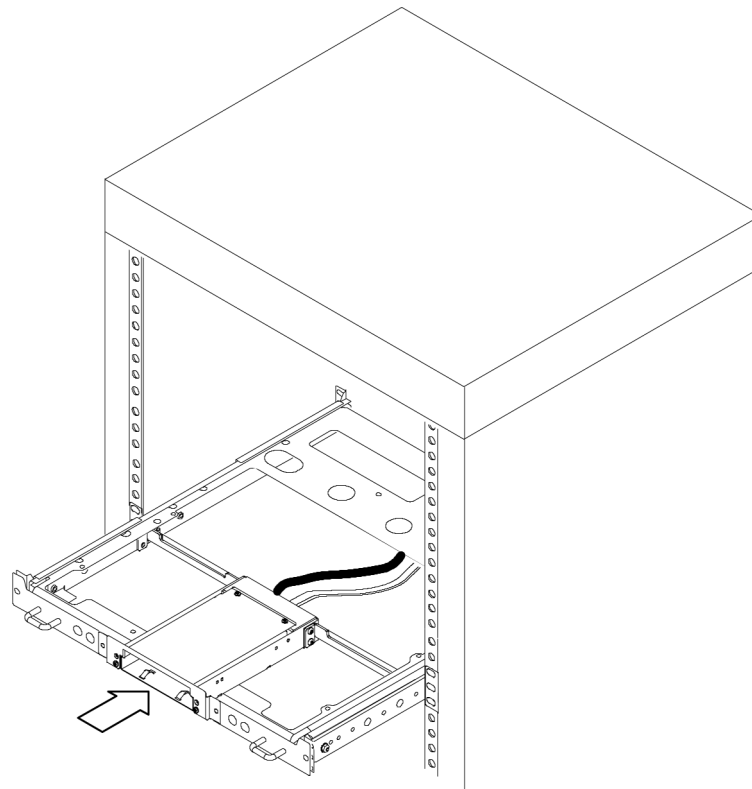

Figure 8: Installation of rack plate assembly in rack (top view) (configurations 1 and 2 shown)
6. Install the rack platform in your equipment rack by inserting the platform into the slides as shown. (See Figure 8.)